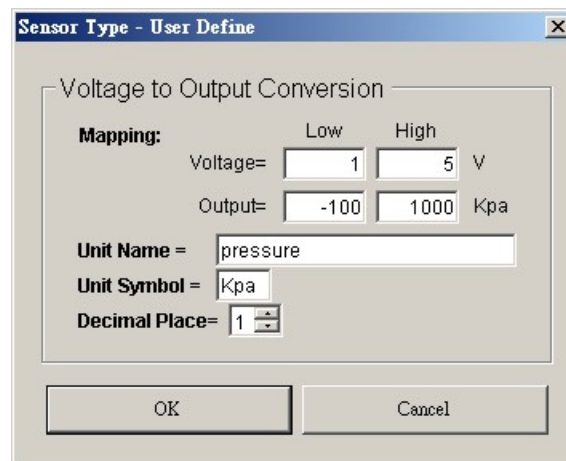

Figure 2-20 User define window
- D. User define: First of all, users need to prepare the sensor for converting user defined physical into analogy voltage output. For example, some manometers can convert pressure into voltage output, voltage level and pressure intensity are in direct proportion. The optical detector can convert light intensity into photocurrent output and then convert it into voltage through resistor. In short, the final output type of user define should be DC voltage and then select User Define in measurement selection thus Figure 2-20 will be brought out. Here define the relationship between the physical and output voltage. When measuring user defined physical, it still needs VA-480 voltage measurement adapter for connecting voltage output of the sensor. Be aware that voltage output of the sensor can't lower than -480VDC or higher than +480VDC.
To define the relationship between physical and output voltage, please write character and number in each field of the window. Take an example by Figure 2-20, the user defined physical is atmospheric pressure and its unit is in KPa. If the pressure is -100KPa, voltage output is 1V whereas if the pressure is +1000KPa, voltage output is 5V. The number is shown one place under decimal point, after the definition is completed and **OK** is clicked, the program will interpret measured voltage by linearity relationship. For instance, the pressure sensor output is 3V, the program will show the pressure as 450.0 KPa.